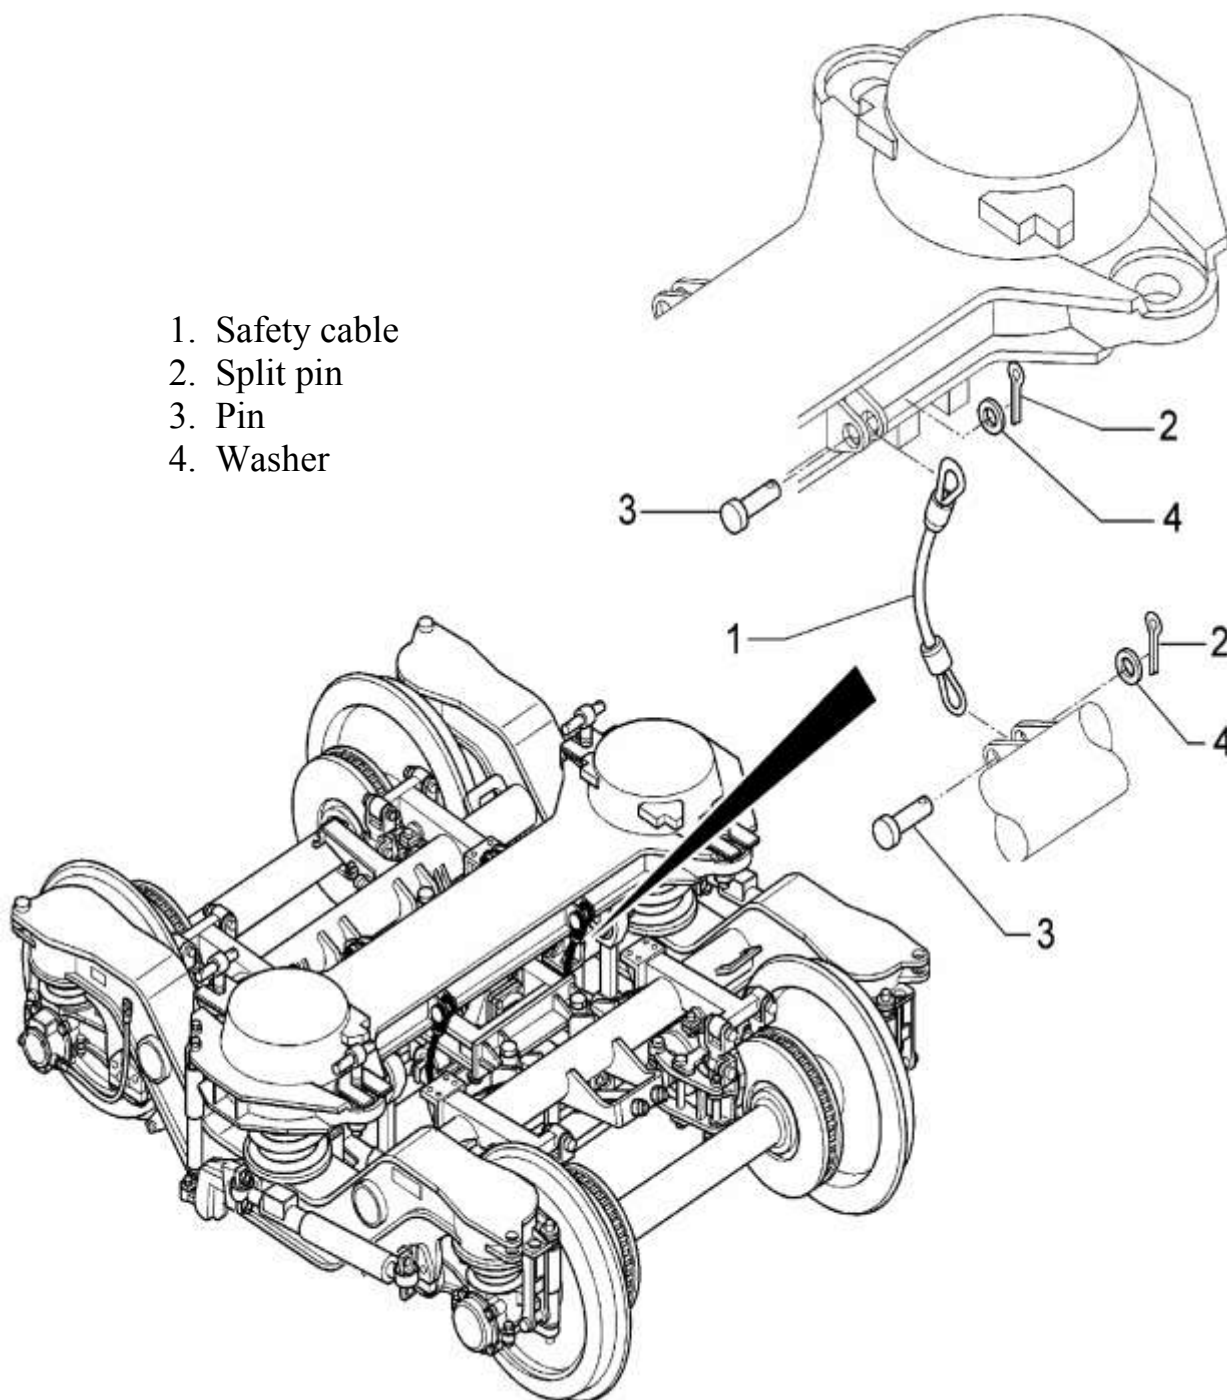

FIG. 4.25 Safety Cables Removal
In order to remove the four safety cables (1 - FIG. 4.25) which link the bolster beam to the bogie frame, extract the split pins (2), extract the pins (3) from both ends and recover the washers (4).